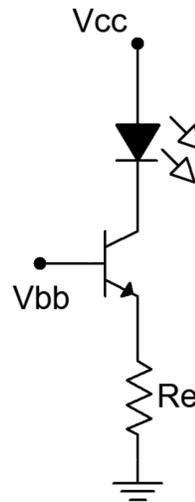

Figure 3
7. Consider the non-saturating current source of Figure 3 using  $V_{cc} = 10$  volts,  $V_{bb} = 5$  volts and  $R_e = 470 \Omega$ . Using a typical beta of 150, calculate the base and collector currents, and the collector-emitter voltage and record them in the first row of Table 3 (theory).
8. Build the non-saturating current source of Figure 3 using  $V_{cc} = 10$  volts,  $V_{bb} = 5$  volts and  $R_e = 470 \Omega$ . Measure and record the base and collector currents, and record the collector-emitter voltage in the first row of Table 3 (experimental). Also compute and record the deviations between theory and experimental results.
12. As seen in steps 7 through 11, the LED current of Figure 3 is a function of the base supply and the emitter resistor. Determine a new value for the emitter resistance that will yield an LED current of 15 mA. Record this value in Table 4. Obtain a new resistor close in value to the calculated result and swap it into the circuit. Measure the resulting LED current and record in Table 4.
14. Simulate the circuit of Figure 3 and record the currents and voltage in Table 6.
3. The circuit of Figure 3 is stated to be a non-saturating current source. How do the data of Table 3 confirm this statement?